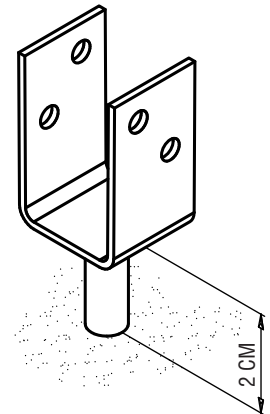

FIG. 1
- DER SKAL VÆRE EN AFSTAND PÅ 2 CM FRA SØJLEBÆRINGERENS UNDERKANT TIL BETONEN, SE FIG. 1.